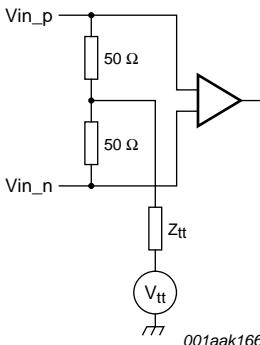

Fig 4. Lane input termination
- [5] Vin_p and Vin_n inputs are differential CML inputs. They are terminated internally to V_{tt} via $50\ \Omega$ (see Figure 4).